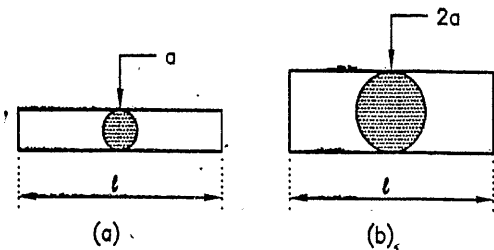

FIG. 1.19
- In Fig 1.19 (a) and (b), the length of wire is the same but in (b) the area of cross section is double than that in (a). So the resistance of conductor in (b) will be half of that in (a).